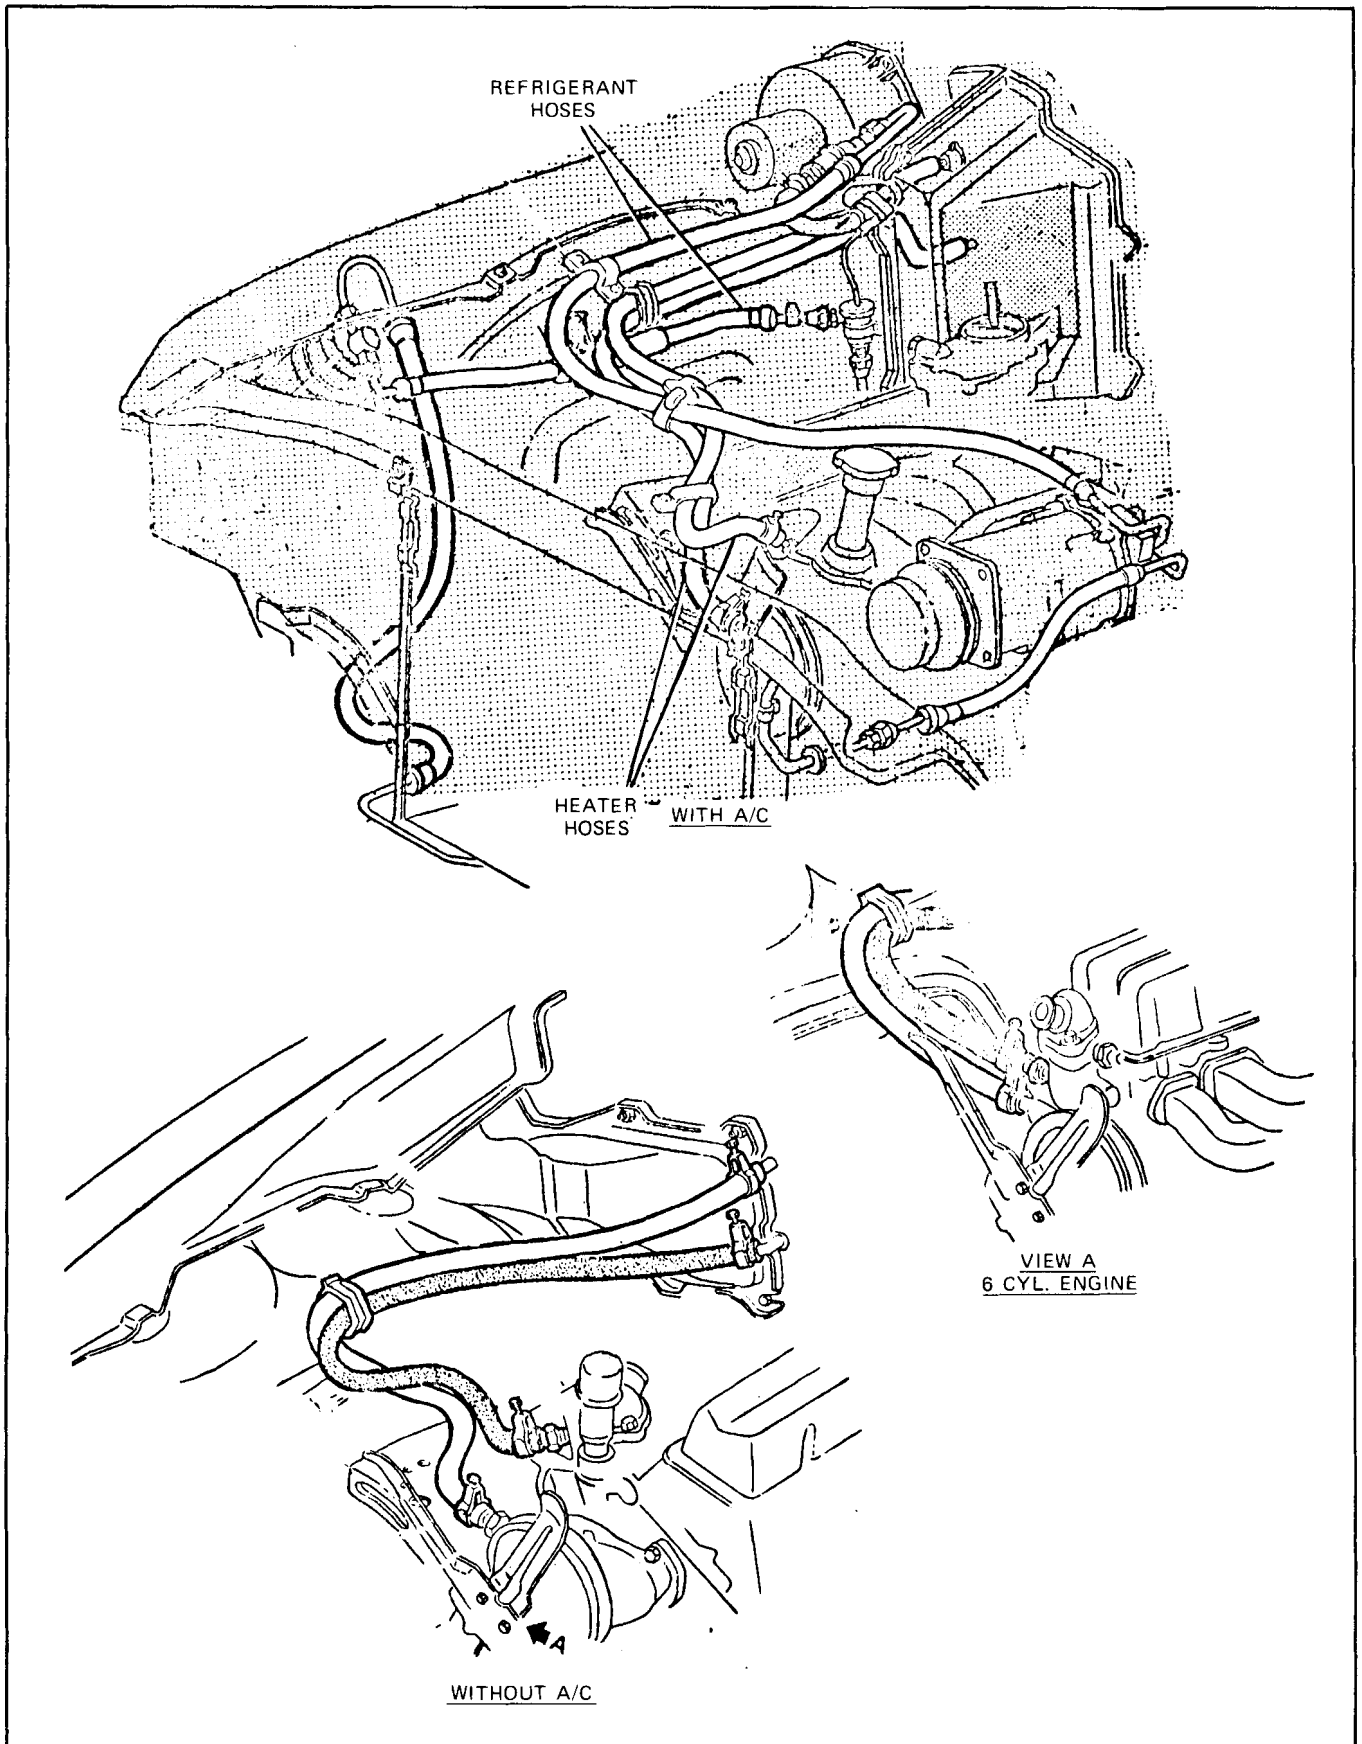

Fig. 1-30 Heater Hose Routing - X Series (307 Engine)
3. Disconnect heater hoses at core connections (Fig. 1-30) and plug core tubes to prevent spilling coolant when removing core and case assembly.